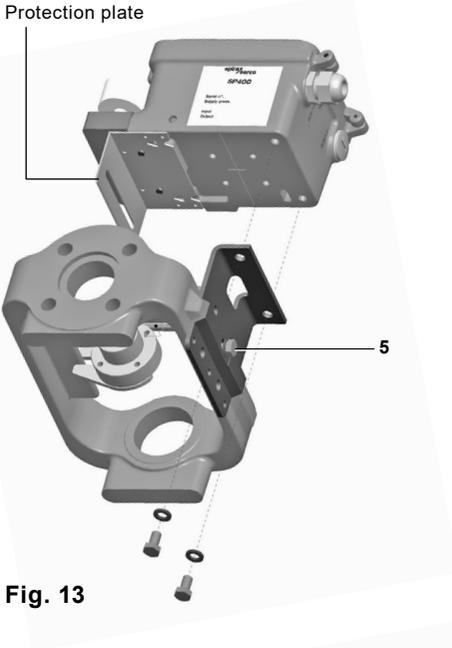
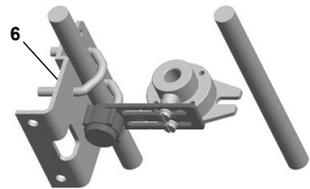

Fig. 13
Fig. 16
- 5.2.6** Attach the positioner mounting plate to the positioner as shown in Figures 13 and 14.
- 5.2.8** When the SP400 positioner and mounting plate assembly is correctly positioned, tighten the hexagon headed screw (**5**) on the yoke mounted actuator (Fig. 13) to 10 - 12 Nm and tighten the 'U'bolt nuts (**6**) on the pillar mounted actuators (Figure 16) to 10 - 12 Nm.